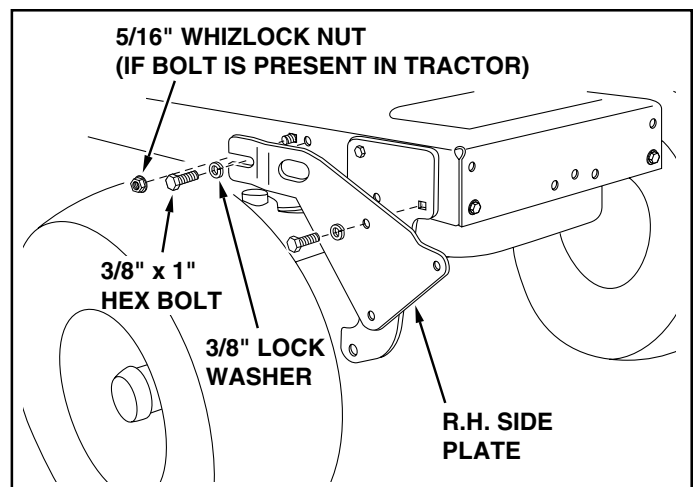

FIGURE 2
3. Assemble the R.H. Side Plate (marked "R") to the now empty holes in the right side of the tractor frame. Use two 3/8" x 1" hex bolts and 3/8" lock washers as shown in figure 2. Repeat for the L.H. side.